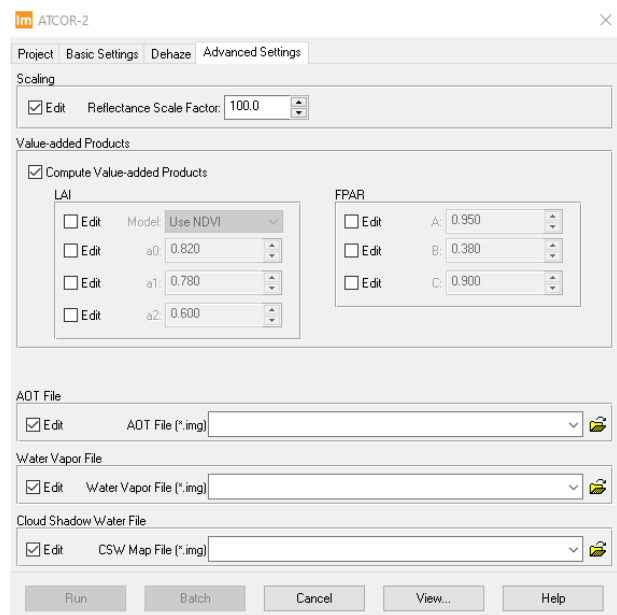

Figure 6: ATCOR-2 Advanced Settings Tab.
17. Navigate from the Basic Settings Tab to the **Advanced Settings Tab** (Figure 6). Check the checkbox **Compute Value-added Products** and select the **LAI Model Use SAVI**.